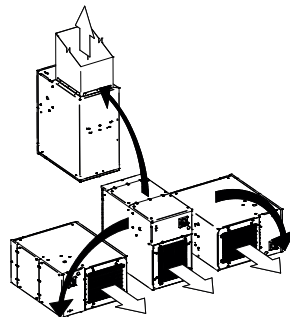

Figure 3
- 4- Install the unit on adequate supports under the unit (non supplied), adapted to the load and with a minimum width of 1 1/4 in. (32 mm) (Figure 3).
- 5- Pay attention to the outlet air direction (Figure 3).
- 7- Make sure to install supports to keep access to internal components for servicing and keep a minimum distance of 5 1/2 in. (140 mm) between the access panel and supports. Take care to position the supports to keep access to the opening of the filter access panel (Figure 3).
- 3- Install the unit on adequate supports under the unit (non supplied), adapted to the load and with a minimum width of 1 1/4 in. (32 mm) (Figure 3).
- 5- Make sure to install supports to keep access to internal components for servicing and keep a minimum distance of 5 1/2 in. (140 mm) between the access panel and supports. Take care to position the supports to keep access to the opening of the filter access panel (Figure 3).
- Make sure that the fan rotates in the correct direction; airflow should be in the direction of the arrow such as indicated (Figure 3).